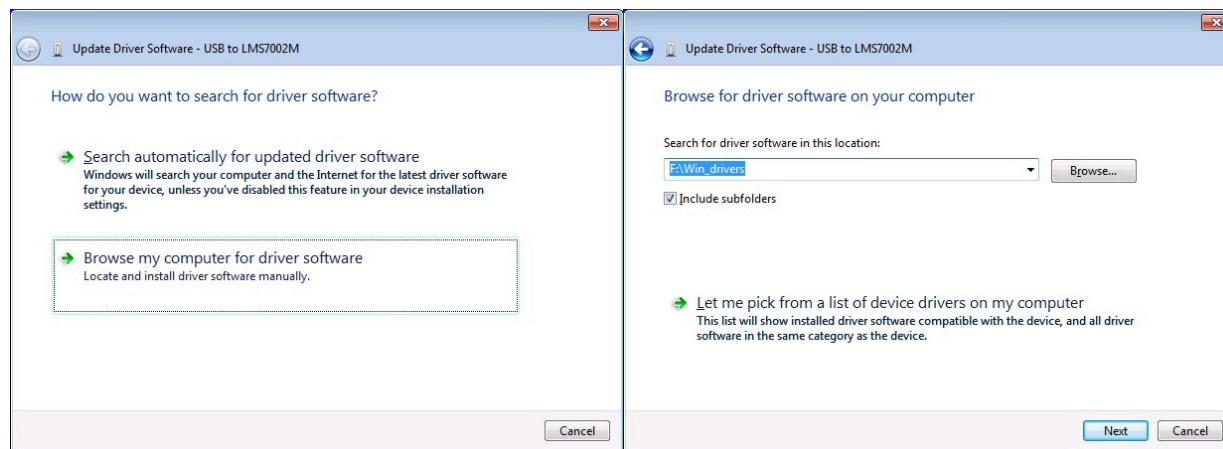

Figure 43 Locate USB driver.
5. Select **Browse my computer for driver software**, locate the driver provided with the kit and press **Next**, see Figure 43.